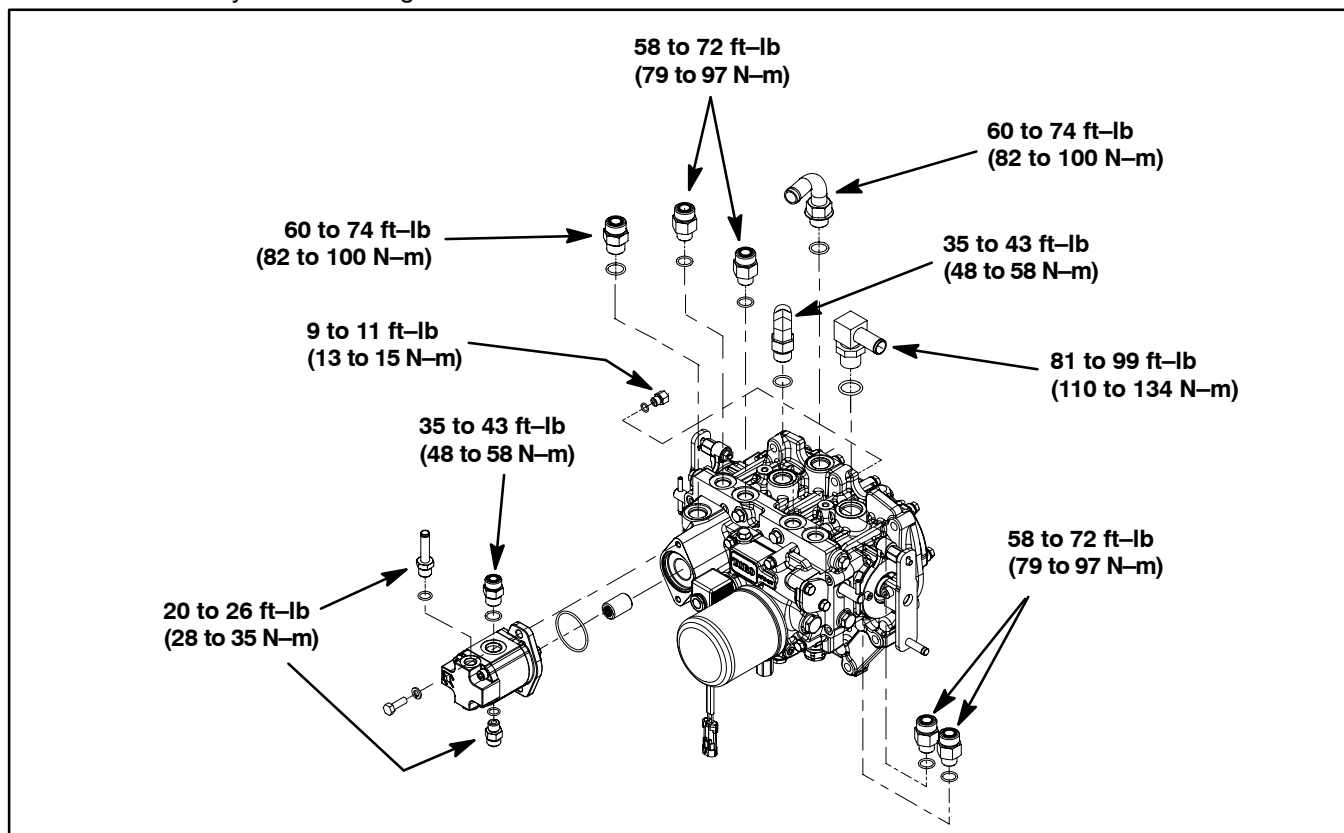

Figure 38
2. If hydraulic fittings were removed from transmission, lubricate and install new O-rings to fittings. Install fittings into transmission ports (see Hydraulic Fitting Installation in the General Information section of this chapter). Tighten fittings to torque values identified in Figure 38).